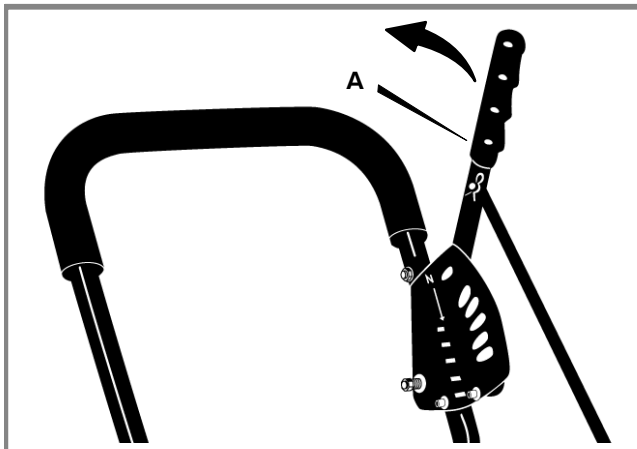

Figure 11: Clutch / Blade Depth Lever
- 1 Before starting the engine, pull the clutch /depth control lever (A) all the way back to raise and disengage the blade. See Figure 11.